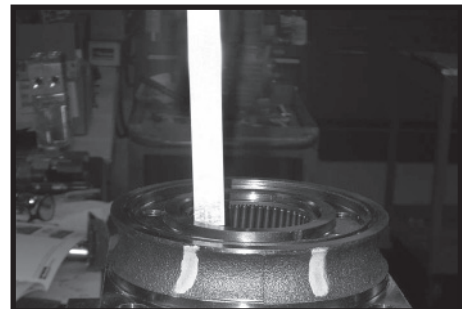

Figure 29
**NOTE:** The depth or location of bearing/bushing (13) in relation to the housing wear plate surface and the depth or location of bearing/bushing (19) in relation to the beginning of bearing/bushing counter bore should be measured and noted before removing the bearings/bushings. This will facilitate the correct reassembly of new bearings/bushings. SEE FIGURE 29.